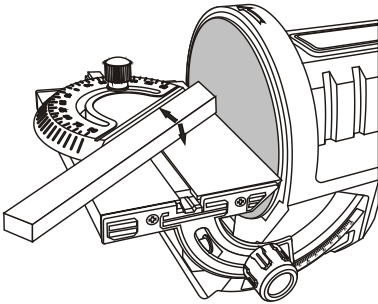

Fig. 10
**▲ WARNING:** When sanding, it is important to maintain control of the workpiece by firmly holding it down onto the sanding table and against the miter gauge (if the miter gauge is being used) (Fig. 10). A workpiece that is not held tightly may become uncontrollable. This is particularly important when the length of the sanding surface of the workpiece exceeds 2" (50.8 mm). The sanding surface of larger workpieces will contact the upward moving portion of the sanding disc and the workpiece will be prone to lifting off the sanding table, possibly causing loss of control and injury to the operator. Never sand any workpiece that is too small to be firmly held in place.